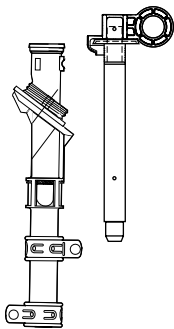

Figure 15. Silver-plated Bay-O-Net with inner fuse holder, Catalog No. 4038380B03M.
*Silver-plated Bay-O-Net with inner fuse holder. (Figure 15)	4038380B03M
\* When ordering P/N 4038380B03M (Figure 15), you must order a 38 kV Bay-O-Net integral fuse cartridge listed in Catalog CA132006EN.